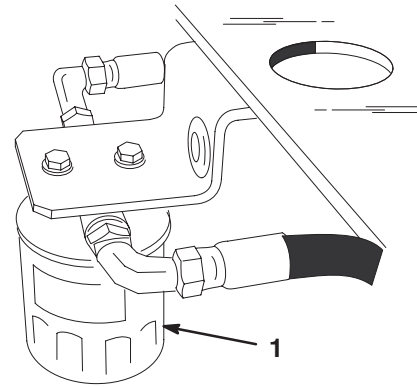

Figure 38
3. Place drain pan under filter, remove the old filter and wipe the filter adapter gasket surface clean (Fig. 38).